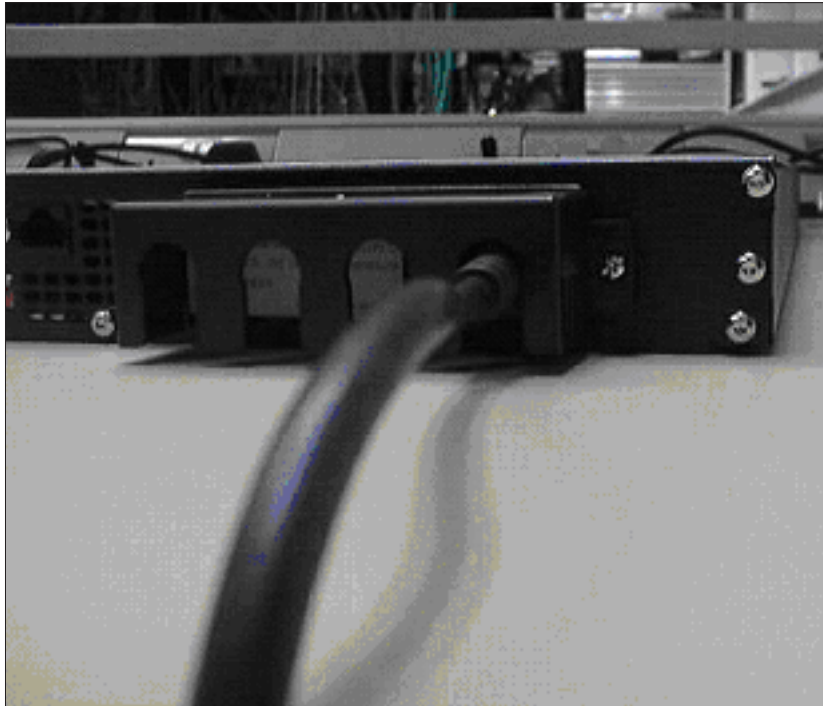

Figure 27. The 2145 UPS-1U cable retention bracket connected to the 2145 UPS-1U
4. Screw in the two screws on each end of the cable retention bracket. See Figure 27.